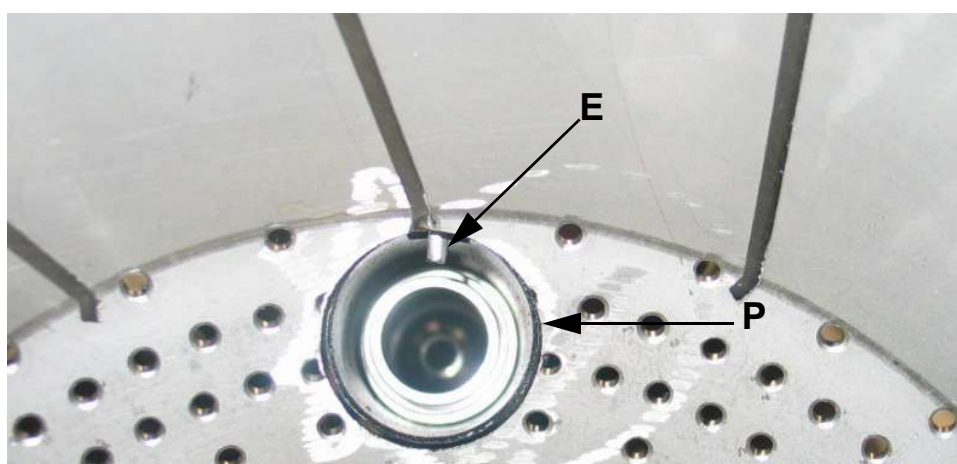

Fig. 2 - Detailed view of the diffuser with pilot (P) and ignition electrode (E)
1. Position VD on VB, fig. 2+3.